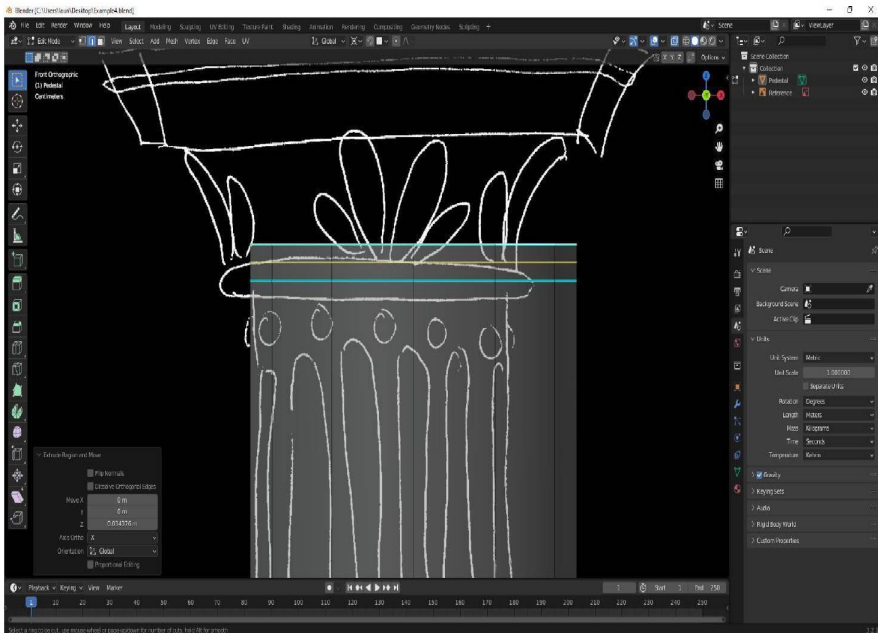

Figure 4.21: Newly inserted edge loop via Ctrl + R
- At this point, it may help to switch back to X-Ray mode from the upper right 3D Viewport menu, and Front Orthographic view, by pressing the number pad period key. With the new loop of faces – referred to as a “face loop” – framed in the view, we'll divide the faces in half horizontally once by inserting a new horizontal edge loop through the middle. Press **Ctrl + R** and hover the mouse cursor over one of the vertical edges in between the top edge loop and the and second edge loop from the top, until a yellow horizontal line appears as shown in *Figure 4.21*. Left-click to confirm: